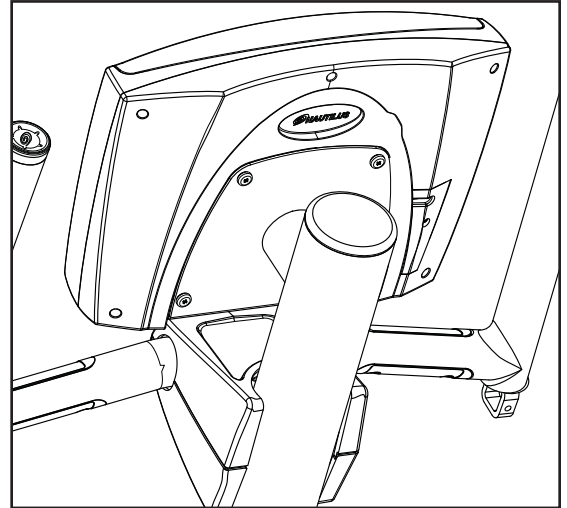

Figure 9
**6-1** Remove the 4 Phillips screws attaching the SC916 Console to the upper mast weldment previously placed to the side in Step 3 (see Figures 9 and 10).